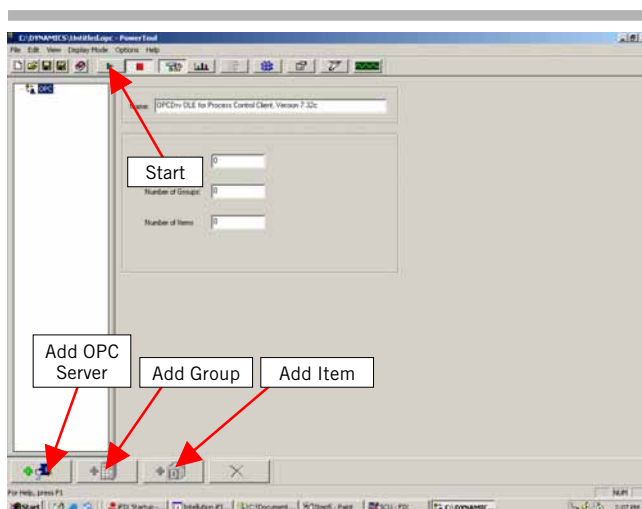

Fig 4.
- 1.7 This will open the “**Power Tool**” window (Fig 4).
- 2.11 Press the **Start** button (Fig 4) to begin retrieving data from the OPC Server.